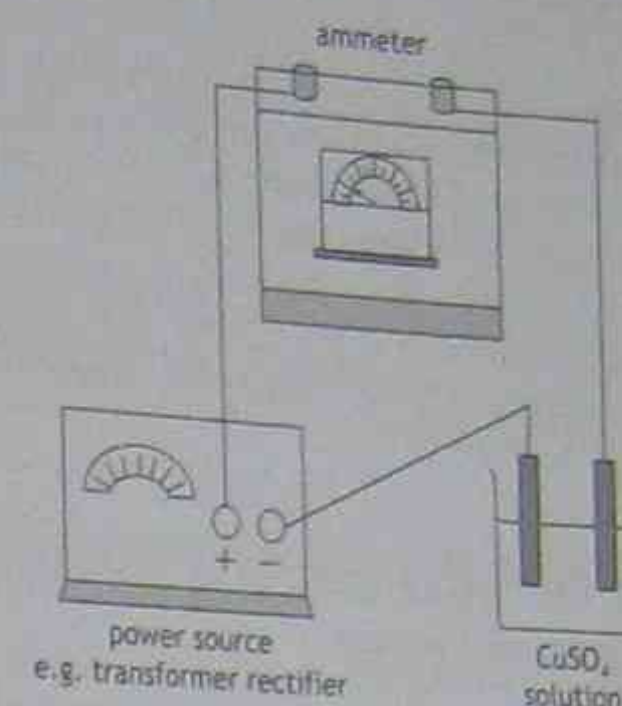

Figure 5.12 Circuit diagram
- Step 5. Set up the circuit as shown in Figure 5.12 and ensure that the two electrodes are connected correctly.